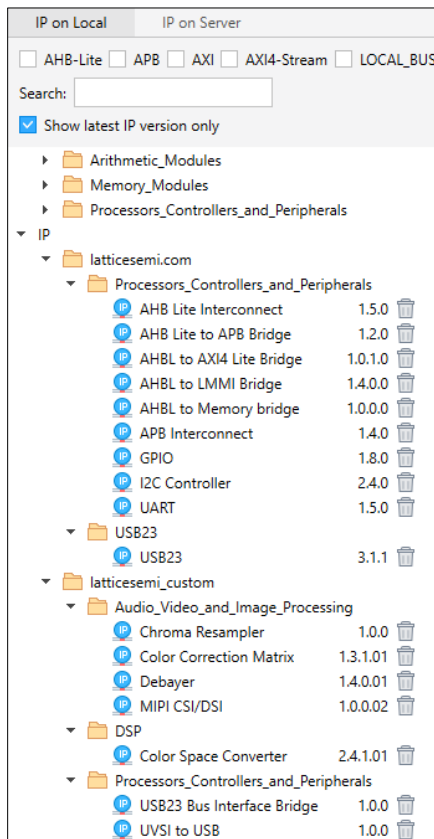

Figure 5.9. IP on Local Tab in IP Catalog
3. Before performing any IP reconfiguration, ensure that the IP has been downloaded and installed under IP on Local, as shown in Figure 5.9. In this reference design, there are few IPKs that need to be installed into IP on Local. Follow steps below to perform the IPK installation.